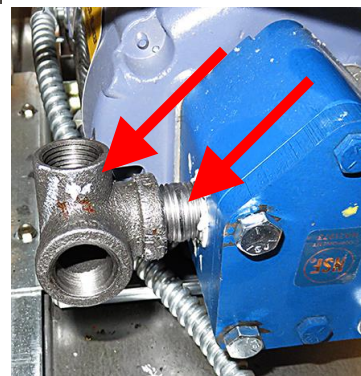

Figure 23
25. Apply Locktite and insert 1½" nipple (8130087) into the 90° elbow with outlet (8130331) and tighten and orient as shown (see Figure 23).